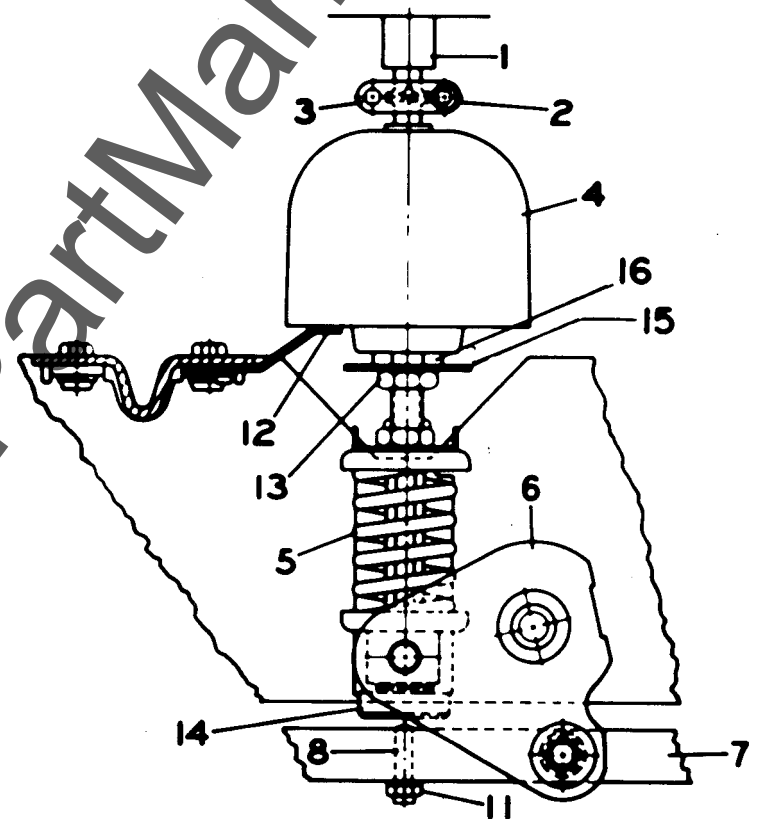

Fig. 12 Primary Contact Gap and Erosion Indication
To adjust, loosen the locking nut, (53) Fig. 4 ($\frac{3}{4}$ hex) holding the stop bolt to the horizontal connecting bar, and then unscrew the stop bolt ($\frac{3}{4}$ hex) to decrease latch clearance while pushing the manual trip push button in and out until the trip roller just starts to turn. (NOTE: Before making adjustments to the trip latch clearance the overtravel stop bolts, (8) Fig. 12, should be backed out of the horizontal connecting bar two turns.) Now, screw in on the adjusting bolt until the roller no longer turns plus an additional $\frac{1}{4}$ turn. Torque the lock nut to 55 foot-pounds while holding the adjusting screw. This sets latch clearance at a minimum and any mechanism wear will tend to increase the clearance. When 0.060 inch clearance is reached readjustment will be required.
Refer to Fig. 12. Six adjustable bolts, (8) are threaded into the horizontal connecting bar to provide stops for each pole to prevent overstroking the Power/Vac* interrupters. Each of these bolts should be backed out of the horizontal connecting bar two turns prior to performing adjustments to
Wipe is the additional compression of the pre-loaded wipe spring, (5) Fig. 12, which is used to apply force to the closed vacuum interrupter contacts. Proper adjustment of the wipe springs is necessary to assure that the vacuum interrupter contacts will stay closed against the forces which tend to open them due to fault currents and to supply the propelling energy required to attain the correct opening speed needed for a clean interruption of the current.
- (3) Measure the position of the Operating Rod (4) Fig. 12, relative to the breaker frame. Measure all three phases. (SUGGESTION: place a piece of masking tape vertically on the operating rod and using a block (approx. 2" height) that spans the frames draw a line on the tape to indicate the position when the breaker is closed. Leave the tape in place and in step 6 draw another line on the tape when the breaker is opened. The distance between these lines is the gap for that phase.)
- (4) Remove the trip latch blocking bolt installed in Step 1 and open the breaker by pushing the manual trip push button.
- (5) Repeat Step No. 2 to measure the position of the wipe indicator with the breaker open. Subtract the two measurements of the screw length to obtain the wipe of each phase.
- (6) Repeat Step No. 3 to measure the position of Operating Rod with the breaker in the open position. Subtract the two measurements to obtain the vacuum interrupter contact gap for each phase. (If the suggestion in Step 3 was followed, remove the tape from the operating rod, place it on a flat surface and measure the gaps directly as the distance between the two lines on the tape.)
- (7) Compare the wipes and gap measured with the following chart:
3. Loosen but do not remove the $\frac{1}{4}$ " hex bolts holding the coupling clamp, (2) Fig. 12. Be sure that the clamp can be rotated freely by hand.
4. Hold the hexagon projection at the bottom of the Operating Rod (1- $\frac{1}{8}$ " wrench) and loosen the adjacent lock nut (13) Fig. 12 (15/16" wrench).
6. After completing the adjustment, torque the Operating Rod Locknut, (13) Fig. 12, to 40-50 foot-pounds while preventing the Operating Rod from turning. Tighten the coupling clamp screws to 10-12 foot-pounds.
In the closed position, the indicator disc, (15) Fig. 12, below the operating rod is aligned with a reference arm (12) on new interrupters. With the breaker in the closed position, the indicator disc after in-service fault interruptions will move upward from alignment with the reference point due to contact erosion. Contact erosion will decrease the wipe which may be brought back to normal by performing wipe adjustment. When erosion reaches $\frac{1}{8}$ inch (the misalignment of the indicator disc and the reference arm with the breaker closed) the interrupter should be replaced.